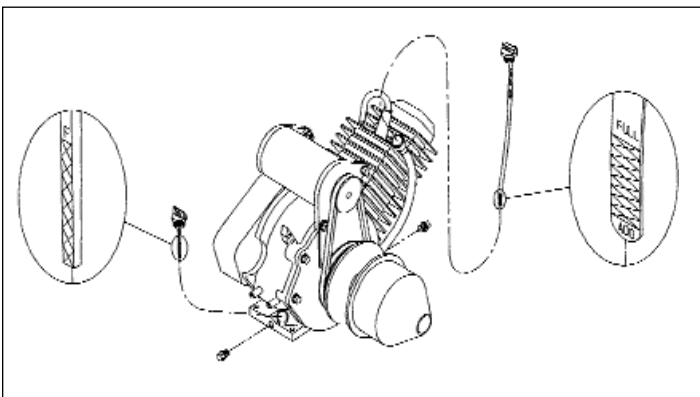

Figure 5- Oil Fill and Drain Plugs
2. Thereafter, change oil every one hundred (100) hours of operation or every fifty (50) hours of operation if operated under heavy load or in high ambient temperatures.
3. Remove oil drain plug, Figure 5, and drain oil while engine is still warm.
4. Install drain plug. See Figure 5.
5. Remove fill or oil dipstick and refill slowly with new oil of proper service classification and viscosity grade. DO NOT OVERFILL. See Figures 5 and 6.
- Note:** **LONG DIPSTICK** - Always screw long dipstick in completely to check oil level. See Figure 5.